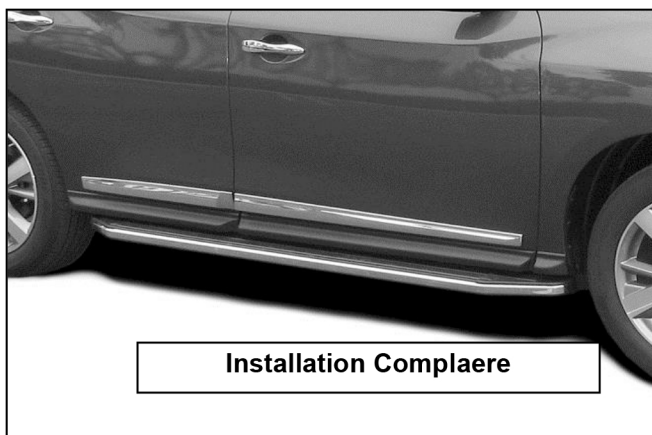

**Fig 27**
18. Carefully unwrap the Running Boards and select the passenger side Running Board. Insert (6) 6mm T-Bolts into the slots in the ends of the channels, (3 T-Bolts per slot), on the bottom of the Running Board, **(Figure 27)**. Hold the Running Board up in the approximate position and slide the T-Bolts down the slots to line up with the Brackets. Tilt the Running Board up at a slight angle to clear the slots in the Brackets. Secure the Running Board to the Brackets with (6) 6mm Flat Washers, (6) 6mm Lock Washers and (6) 6mm Hex Nuts, **(Figure 28)**. **NOTE:** The Running Board is designed to fit close to the vehicle. It may be necessary to loosen the Mounting Brackets and tilt the Brackets downward to insert the Running Board. Do not fully tighten hardware at this time.